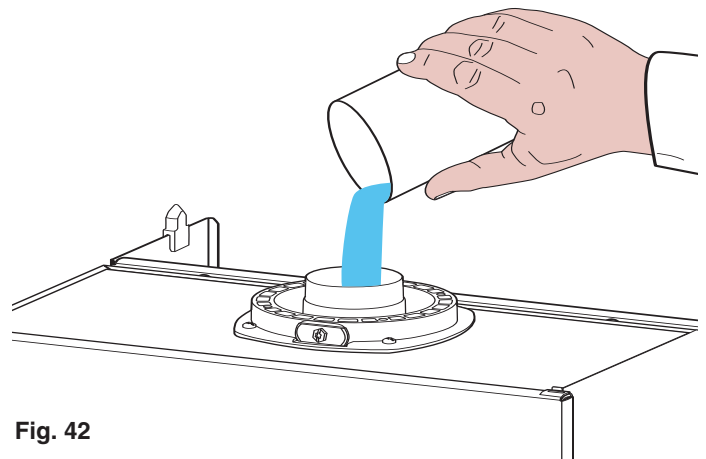

Fig. 42
2. Fill the condensate trap with water, by pouring 1/2 a litre of water into the exhaust flue connector (see Fig. 42). N.B. In the event of a prolonged period of system shutdown, the condensate trap should be filled before any renewed use. A shortage of water in the trap could possibly lead to a leakage of fumes into the air, until it refills itself.